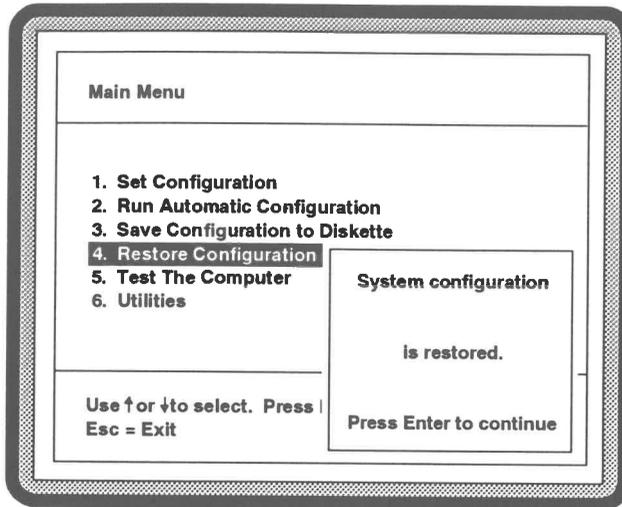

Figure 4-9 Restore Configuration from Diskette Program Sequence
3. From the **Main Menu**, select **Restore Configuration from Diskette** and press Enter (see Figure 4-9).
NOTE: Figure 4-9 is a composite of the windows you will see while carrying out this procedure. It is intended to show the program sequence.